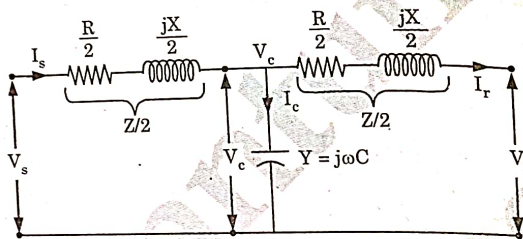
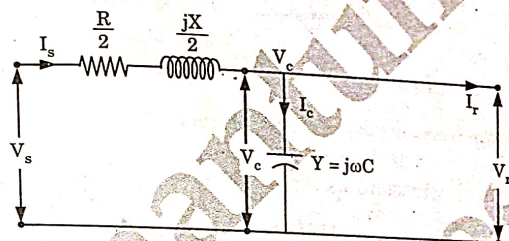

Fig. 2.24.1. T-equivalent circuit of medium transmission line.
Fig. 2.24.3.
1. From Fig. 2.24.1,
1. Under no load condition, the equivalent circuit of Fig. 2.24.1 is shown in Fig. 2.24.3.
3. From Fig. 2.24.3, the voltage across the capacitor by using voltage divider rule is